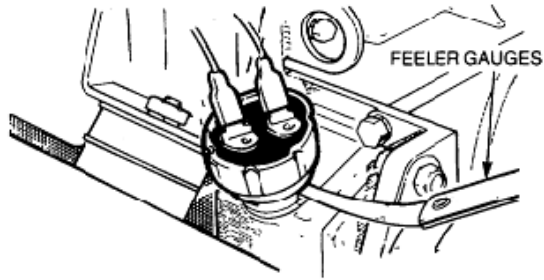

Figure 66 Differential Lock Engagement Switch Adjustment
- g.** Using feeler gauges, measure and note the clearance between the switch lower face and the transmission (Figure 66).